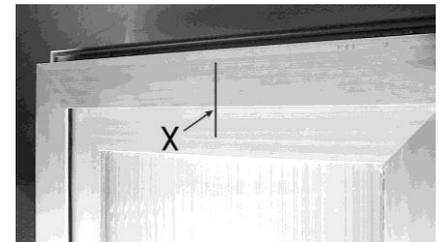

Figure 7
- b) Trace centrepoint X in pencil onto the window frame (Fig.7).